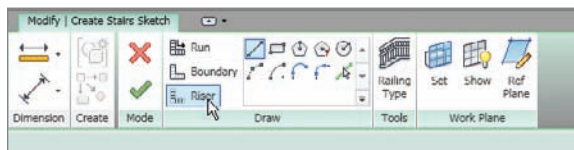

FIGURE 10.45 Click the Riser button.
4. On the Draw panel, click the Riser button, as shown in Figure 10.45.